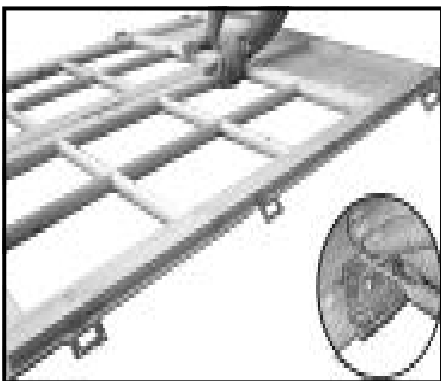

Fig C1
2. Lay the outer frame in position (fig C1).
6. Place the hinges as shown in fig C1. Screw the inner piece of the hinge to the door with 3 x 25mm screws.